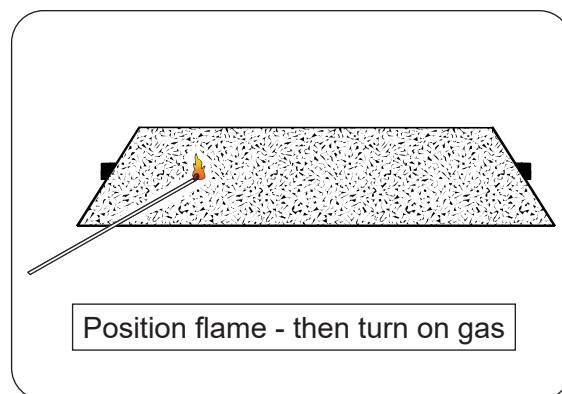

Fig. 15-1
3. Light a long-stem match or a long-necked butane lighter, and place the flame against the surface of the decorative media near the burner (Fig. 15-1).